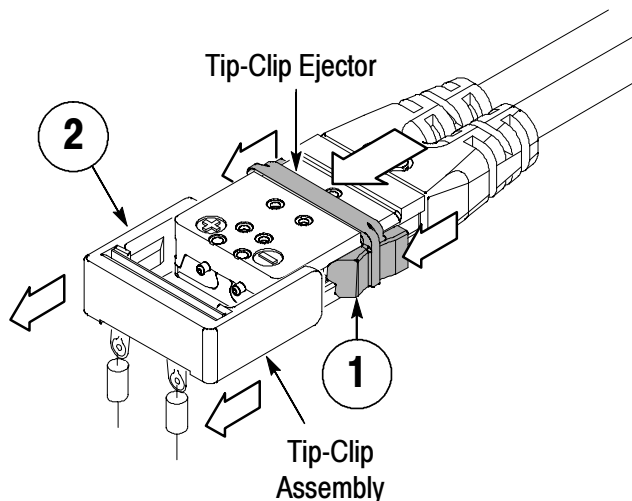

Figure 8: Removing a Tip-Clip Assembly
1. Grasp the sides of the Tip-Clip Ejector and slide the Tip-Clip Ejector towards the front of the probe tip. You will feel the Tip-Clip Ejector click past a ridge on the probe tip and the Tip-Clip Assembly will loosen. See Figure 8.